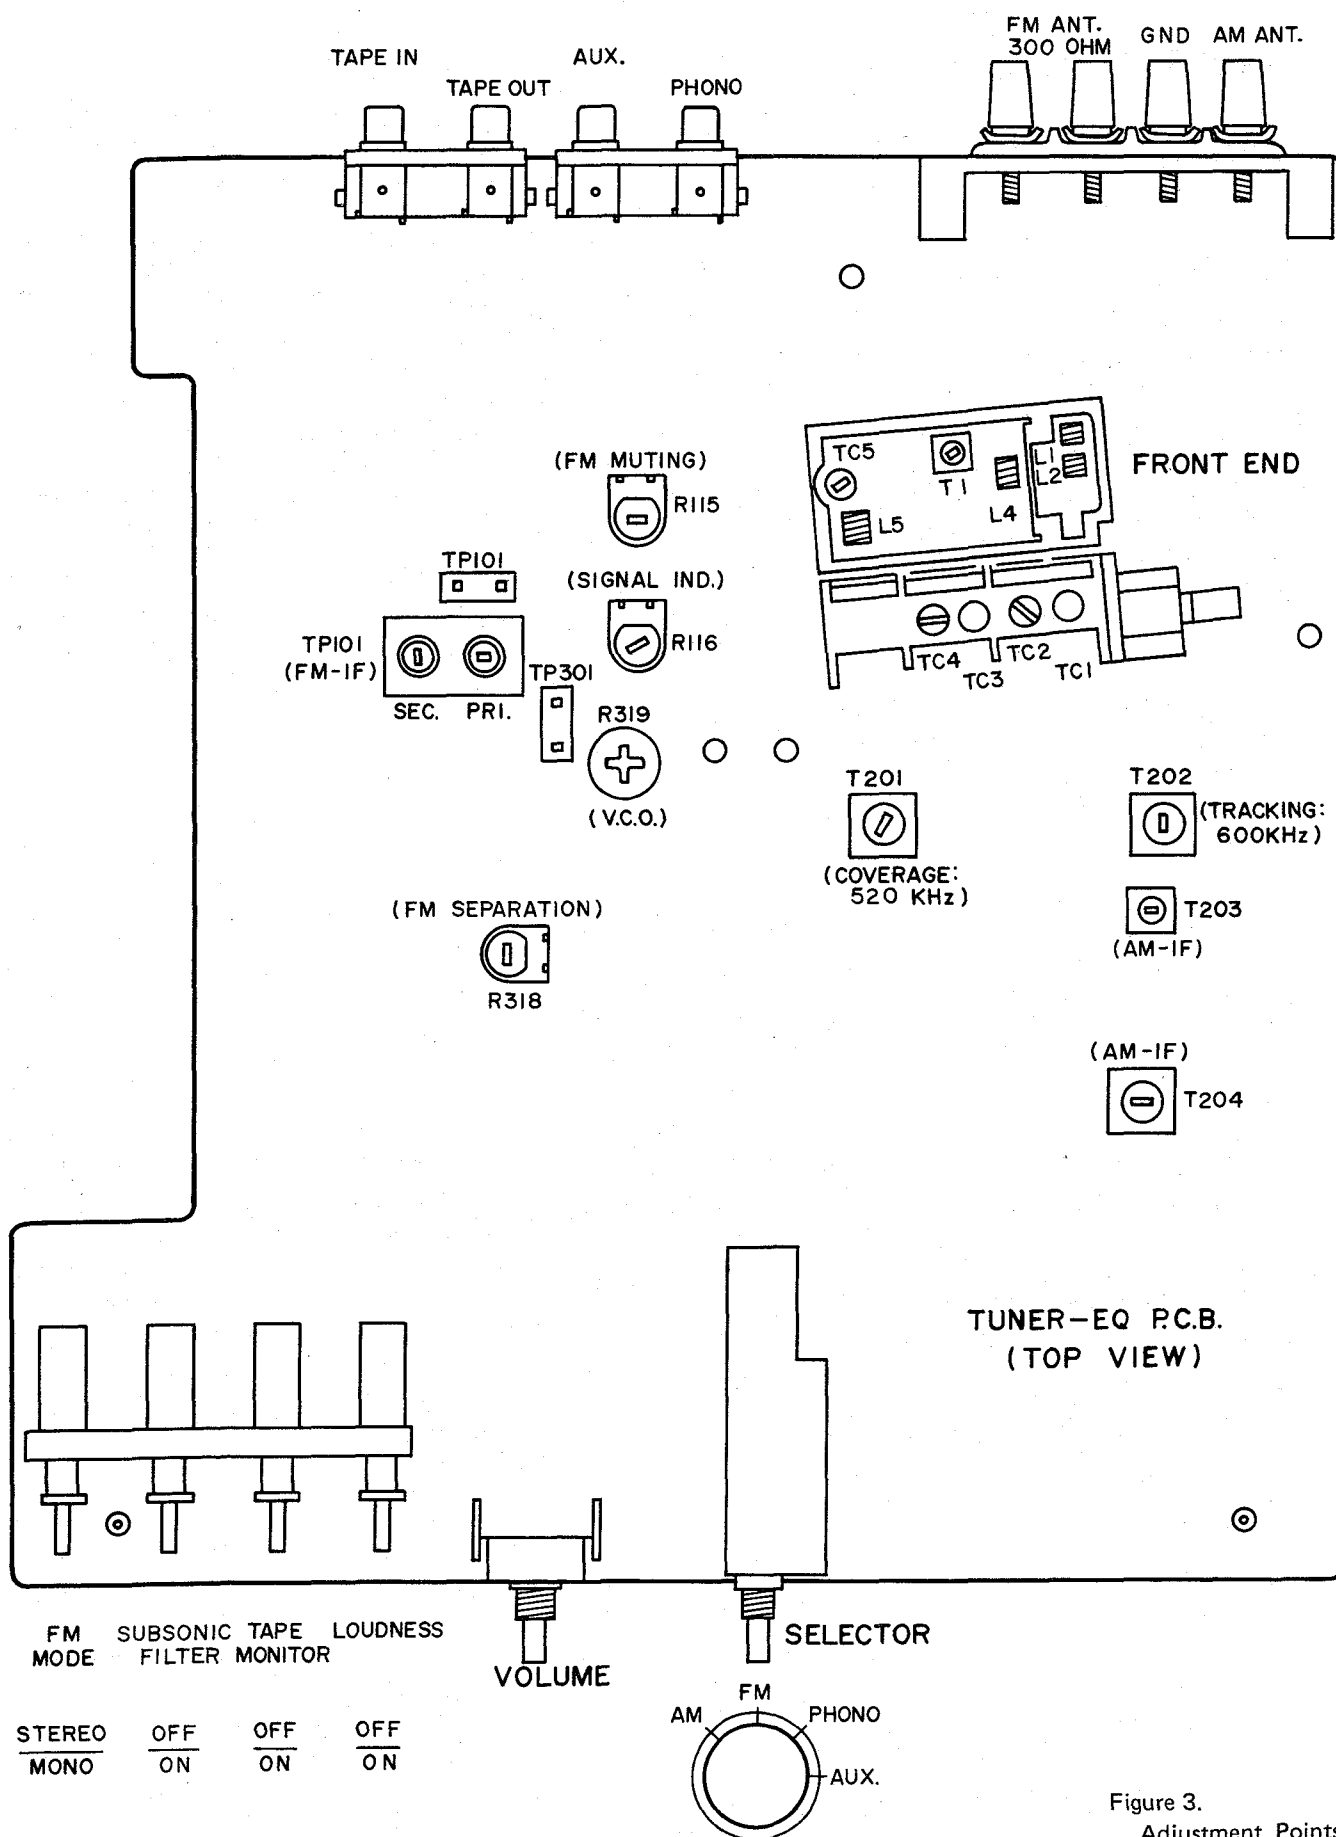

Figure 3.
2. Adjust R116 (See Figure 3) until the signal strength indicator on the front panel lights up.